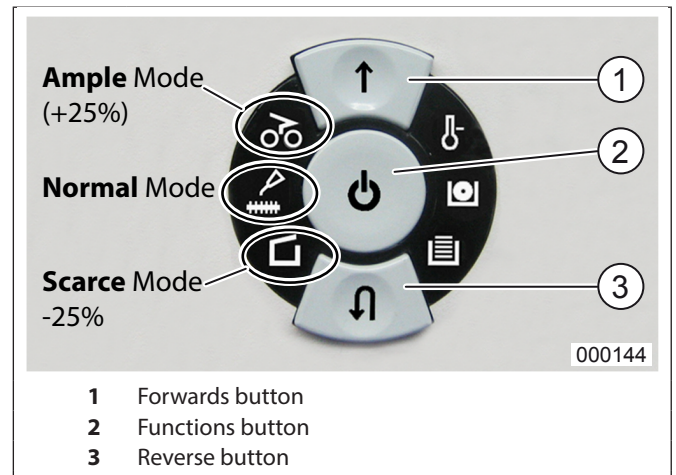

Fig. 9 Customization of automatic oiler output
3. Press and hold the forward button (Fig. 9/1) and the reverse button (Fig. 9/3) simultaneously.
4. Additionally press and let go of the function button (Fig. 9/2).
6. Press the forward button **twice** (Fig. 9/1).
7. Press the function button (Fig. 9/2) so often until the needed oiler output mode comes on.
8. Press the reverse button (Fig. 9/3).
If you want to continue shredding turn the machine on: press the function button (Fig. 9/2) briefly.